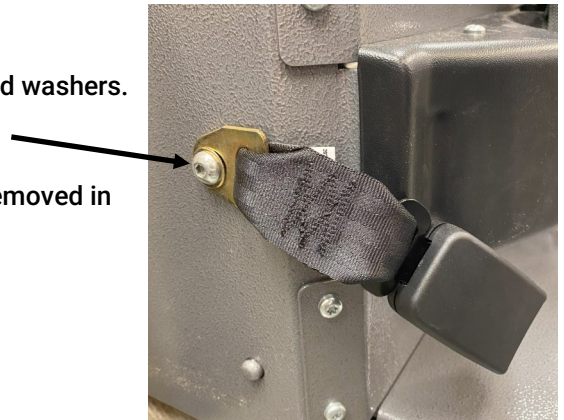

Figure 2
**III. Leg Restraint Buckle Replacement (Fig. 2)**